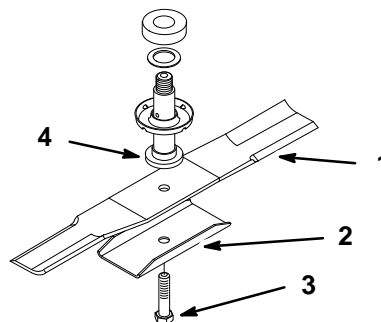

Figure 26
1. Install the blade, blade stiffener and bolt (Fig. 26).